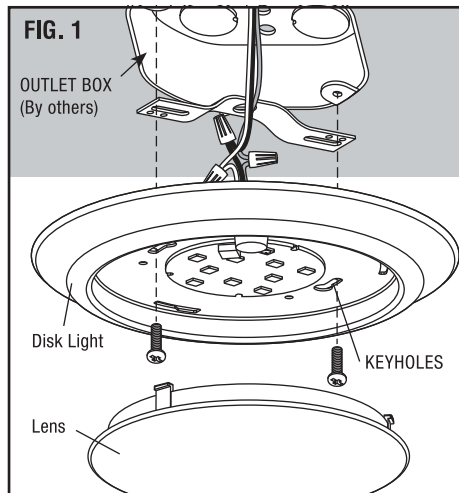

FIG. 2
2. Attach plastic insert to Disk Light using supplied ¼" screws. (Fig. 2)